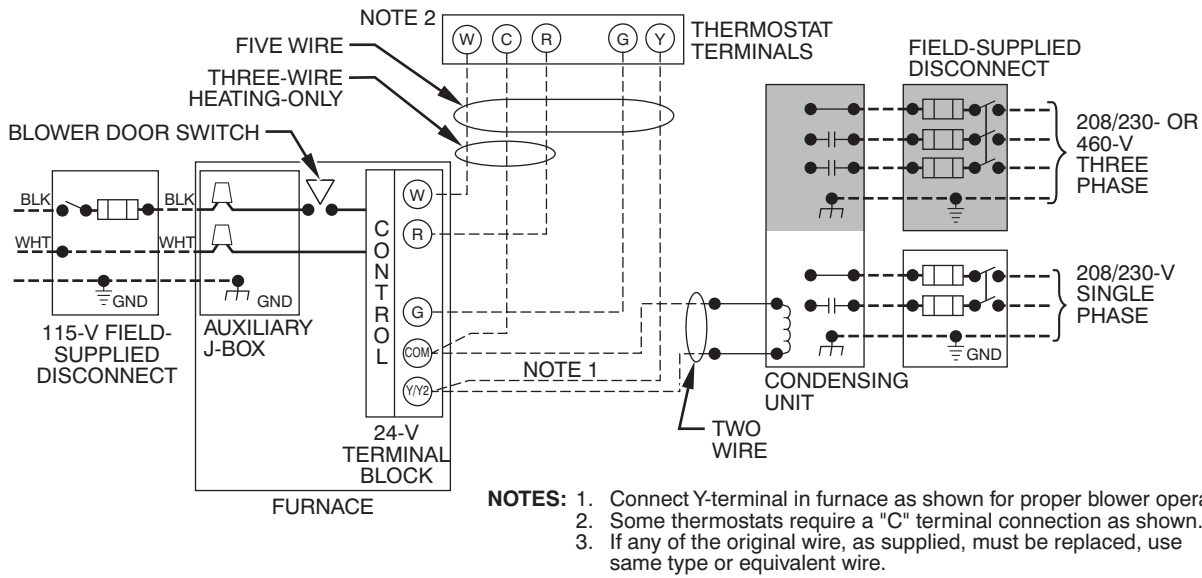

Fig. 36 – Typical Single-Stage Wiring Diagram
6. Connect power cord power and neutral leads to furnace power leads as shown in Fig. 36.
5. Connect field power and neutral leads to furnace power leads as shown in Fig. 36.
Make field 24-v connections at the 24-v terminal strip. See Fig. 37. Connect terminal Y/Y2 as shown in Fig. 36 for proper cooling operation. Use only AWG No. 18, color-coded, copper thermostat wire.